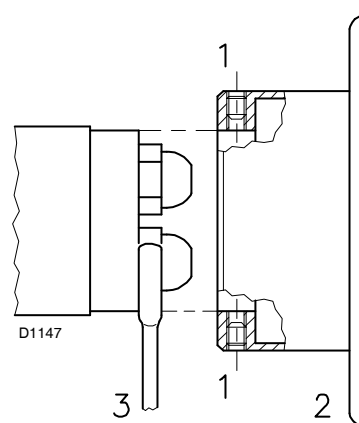

Fig. 13
- Fitting the spanner through the central hole in the flame stability disk or loosen screws 1)(Fig. 13).
- Remove disk 2)(Fig. 13) and replace the nozzles using the wrench 3).